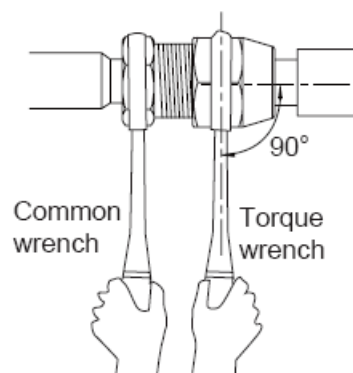

Fig. 4.5
(3) Use torque wrench to twist on the flared nut tightly until the wrench gives out a click sound. (Hold the handle of wrench and make it at right angle to the pipe. as in Fig. 4.5